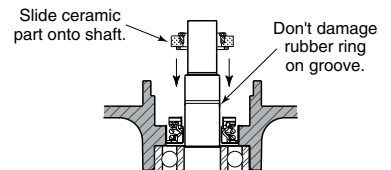

Figure 4
**NOTICE:** De-burr snap ring groove before installing seal. Do not damage ceramic face or rubber ring when passing seal over shaft shoulder and snap ring groove shoulder. Seal faces and ring must be clean and undamaged or seal may leak. See Figure 4.